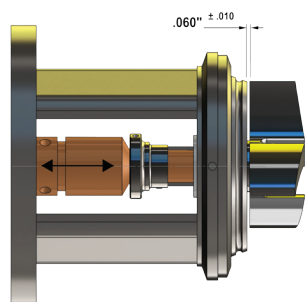

Figure No. 1
1. Install the adapter onto the motor using (4) bolts and (4) lock washers. Position the adapter such that the threaded seal flush adapter hole is located on the top.
- d. Using feeler gauge between back plate and impeller position stub shaft so that the gap is equal to $.060'' \pm .010''$. (see figure no.1)